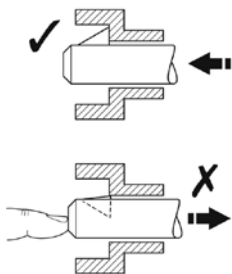

Fig. 7
3. **YOU MUST CHECK THAT THE PIN IS SECURELY FITTED.** To do this, press your finger into the barbed end. If the pin remains stationary, the lift is safe to use (Fig. 7).